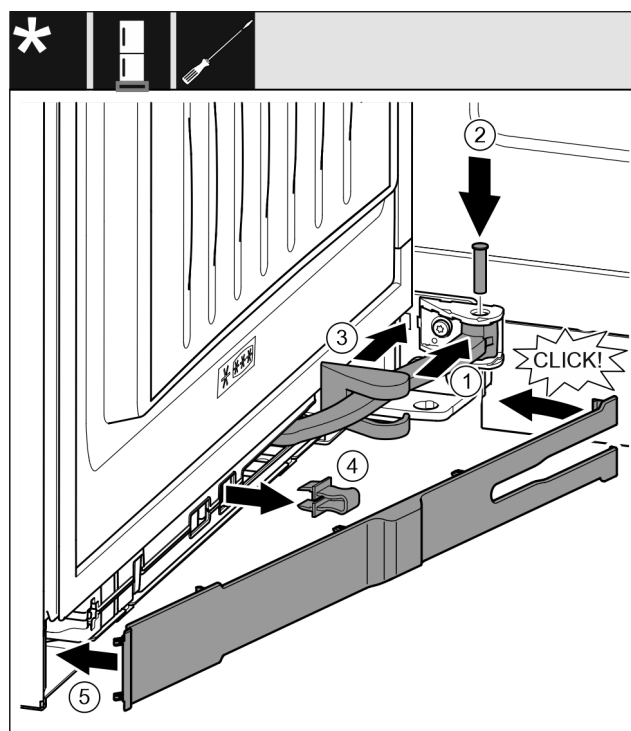

Fig. 47
- ▶ Turn the joint Fig. 47 (1) in the hinged suspension.
- ▶ Use a screwdriver to insert the pin Fig. 47 (2) into the hinged suspension and joint. In the process, make sure that the latching cam is correctly positioned in the groove.
- ▶ Slide the swap bearing block cover Fig. 47 (3) along the joint and install it above the hinged suspension.
- ▶ Remove the locking device Fig. 47 (4).
- ▶ Attach the panel Fig. 47 (5) from the handle side and swivel it on.